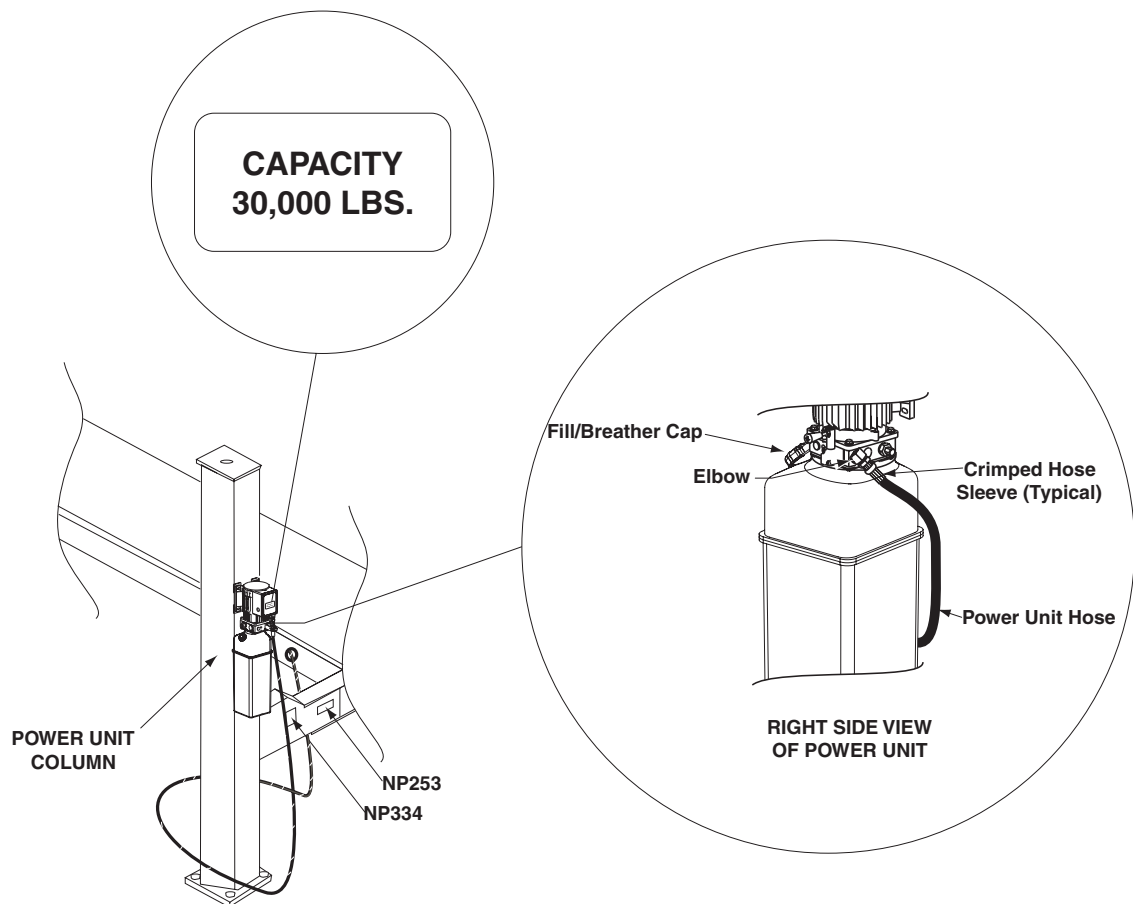

Fig. 17
- Run hydraulic hose from runway through slot in side of runway to power unit output port, Fig. 17. **DO NOT** use Teflon tape on hydraulic hose connections. Install and hand tighten elbow to pump until O-ring is seated and elbow should be oriented downward at approximately 45°, Fig. 17. Tighten locknut to 35-40 ft. lbs.
- Install enclosed capacity label on power unit, Fig. 17.
**CAUTION** If fill/breather cap, Fig. 17, is lost or broken, order replacement. **DO NOT** substitute with a solid plug.
- A. System capacity is twenty-two (14) quarts. Use Dexron III ATF. Remove fill/breather cap and fill vent screw, Fig. 17.